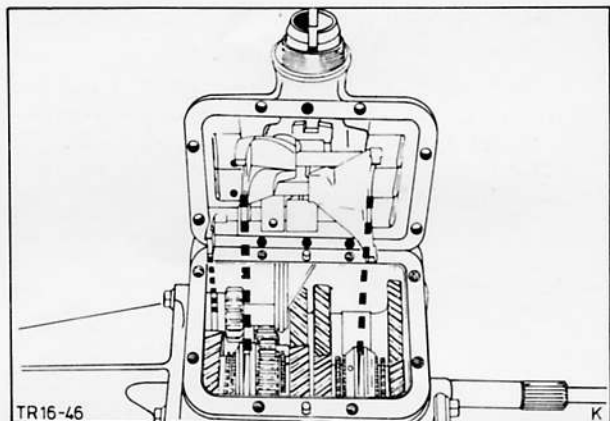

Fig. 100. Fit selector housing
49. Fit selector housing with selector forks and secure, Fig. 100.